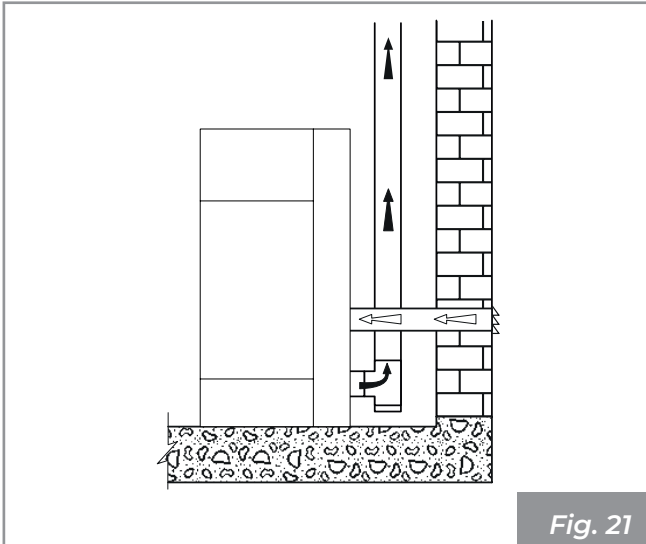

Fig. 21
- it can come directly from outside with direct connection to the combustion chamber (**Fig. 18 - Fig. 21**).
- to connect the combustion air inlet of the appliance to the air intake using a special pipe (**Fig. 20 - Fig. 21**).